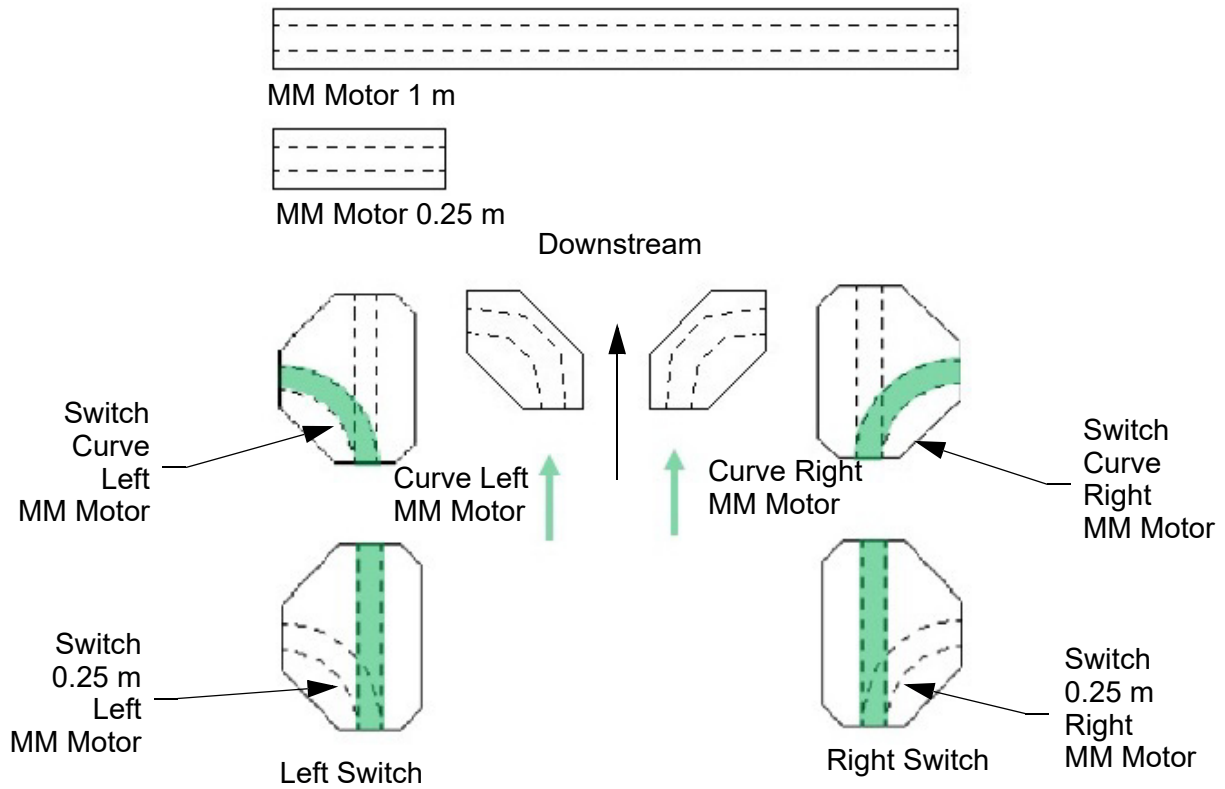

Figure 4-33: Motor Types MM Lite
2. From the **Motor Type** drop-down list, select the motor type that is most common on this path (see Figure 4-33). The **Motor Defaults** automatically populate.
MagneMover Lite Motors see Figure 4-33 on page 101